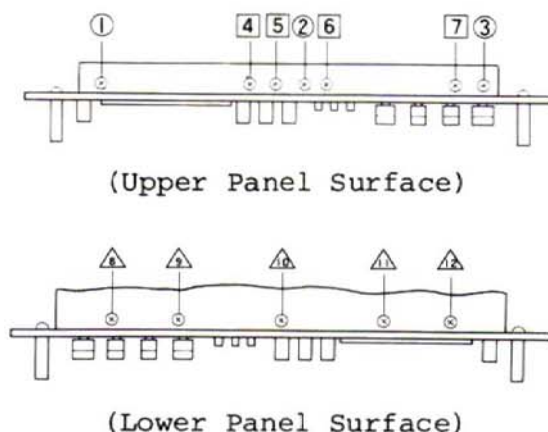

Fig. 2
- d. Fig. 2 shows the upper panel surface
Fig. 2 shown the lower panel surface